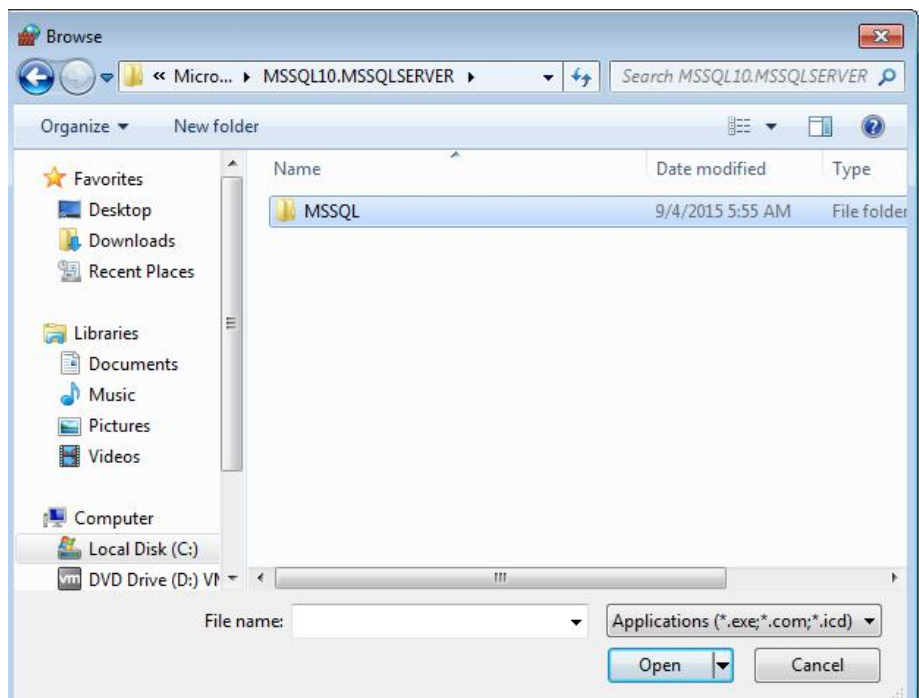

Fig.1.22 MSSQL10.MSSQLSERVER
(9) Open “MSSQL” folder (see Fig.1.22).